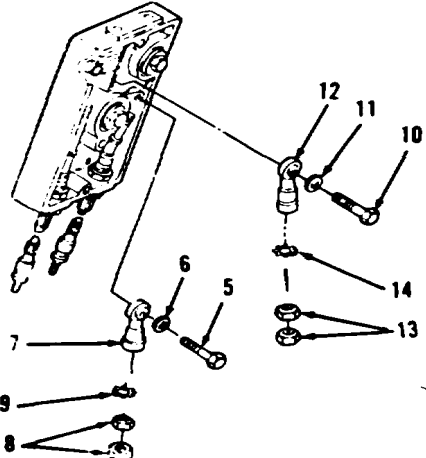

Figure 5-18.
2. Loosen nut (8, Figure 5-18).
3. Remove bolt (5), washer (6) and rod end (7).
4. Remove two nuts (8) and star washer (9).
5. Loosen nut (13).
6. Remove bolt (10), washer (11) and rod end (12).
7. Remove two nuts (13) and star washer (14).